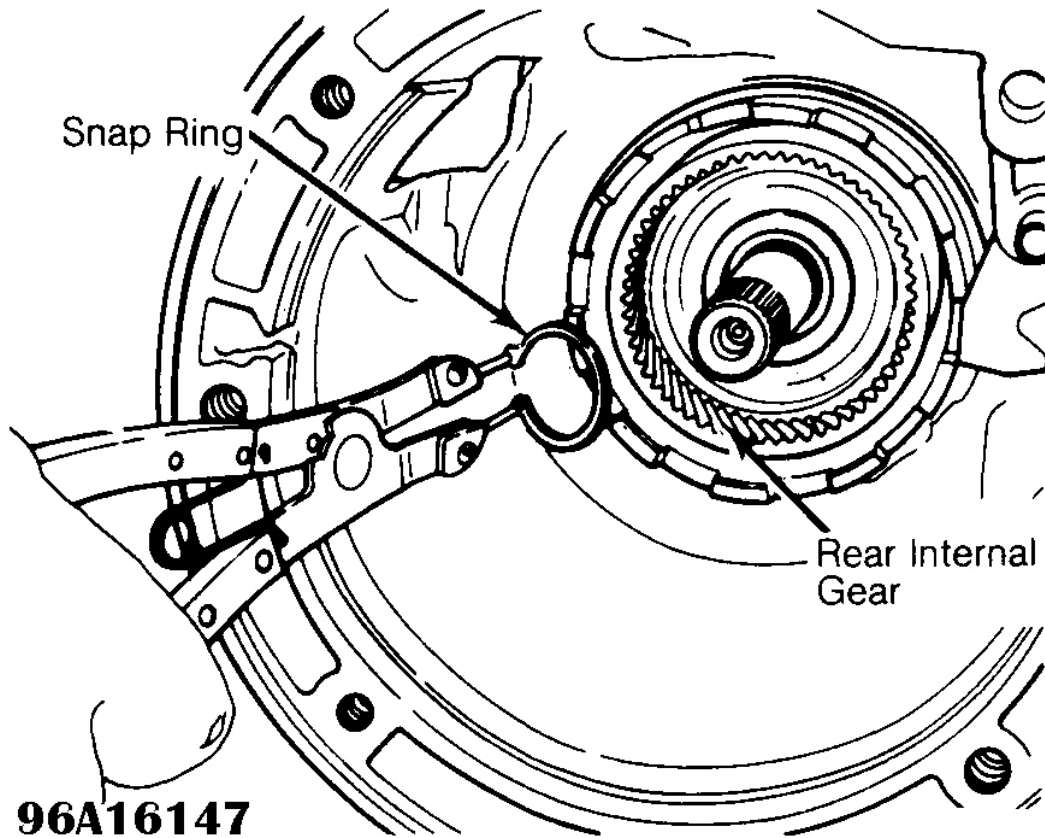

Fig. 16: Rear Internal Gear Snap Ring Location
2. Remove No. 8 thrust washer from rear planetary carrier. Remove extension housing attaching bolts and extension housing. Remove rear planetary snap ring. Remove rear planetary gear and thrust washer. Remove rear internal gear snap ring. See **Fig. 16** . Remove rear internal gear and reverse drum/one-way clutch assembly.